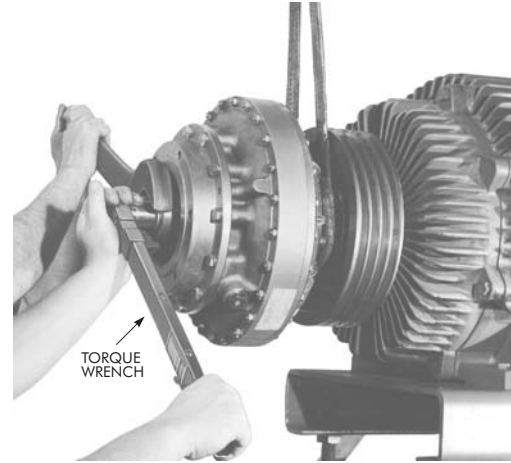

Figure 5
- Hold input shaft using wrench flats illustrated in Figure 5, and tighten fastener to torque specified in Table 2.